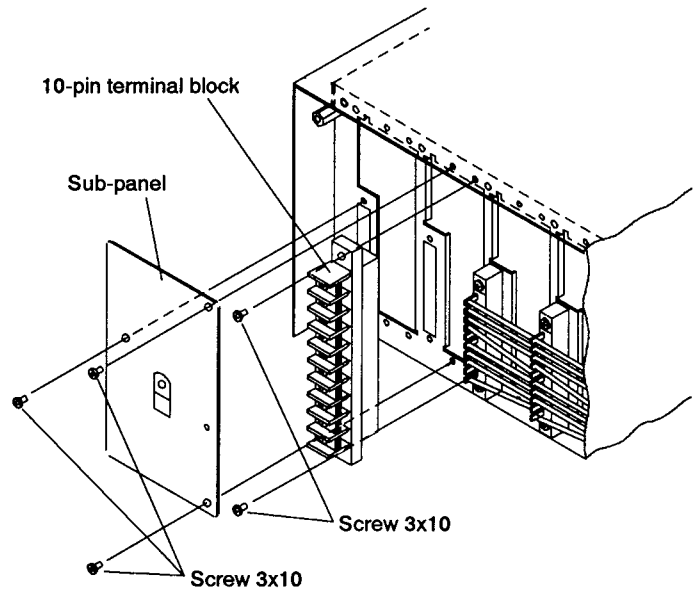

Fig.2
3. Fit a sub-panel in place. (Figure 2)
4. Attach a 10-pin terminal block as shown in Figure 2.